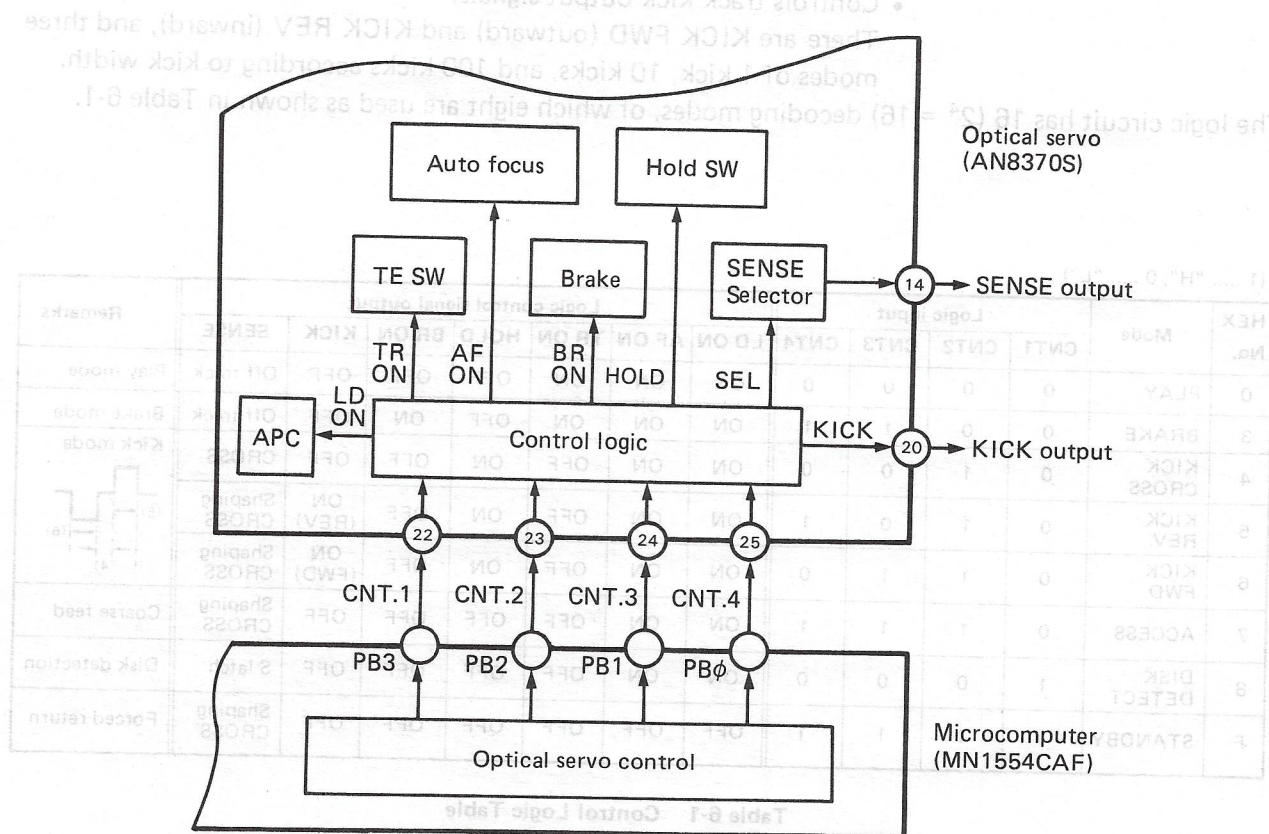

Fig. 6-2 Control Logic Circuit
- (1) Control signals and their functions (See Fig. 6-2.)